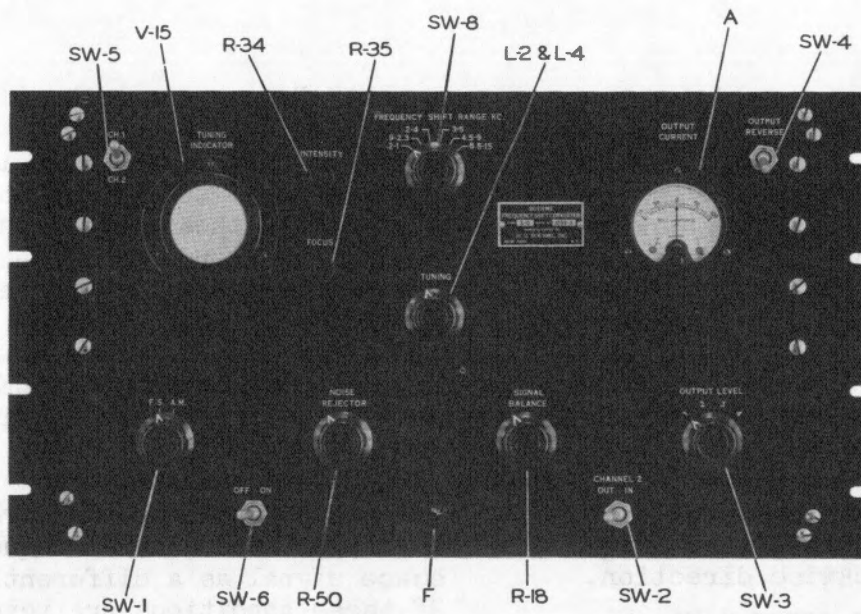

Figure 1. FRONT PANEL VIEW
The controls on the front panel are shown in figure 1 and the functions are listed in the following table.
a. Referring to the Front Panel View (Fig. 1), set the controls as follows: